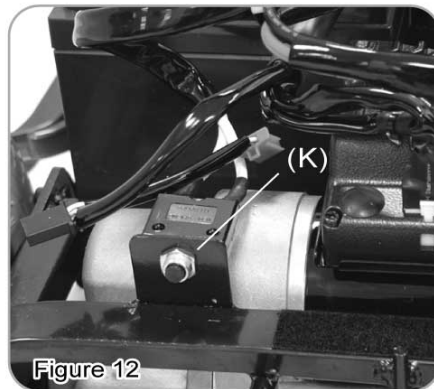
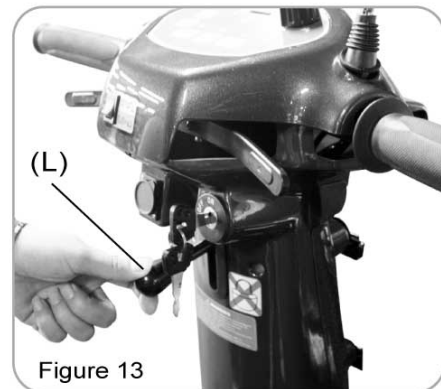

Figure 12
Figure 13
- CIRCUIT BREAKER (See Fig. 12)
- 1.If the scooter's circuit system malfunctions or over loaded, the circuit breaker (K) will automatically switch off the power to ensure safety.
- TILLER ANGLE ADJUSTMENT (See Fig. 13)
- 1.To adjust tiller angle by pushing down the tiller angle adjustment (L).